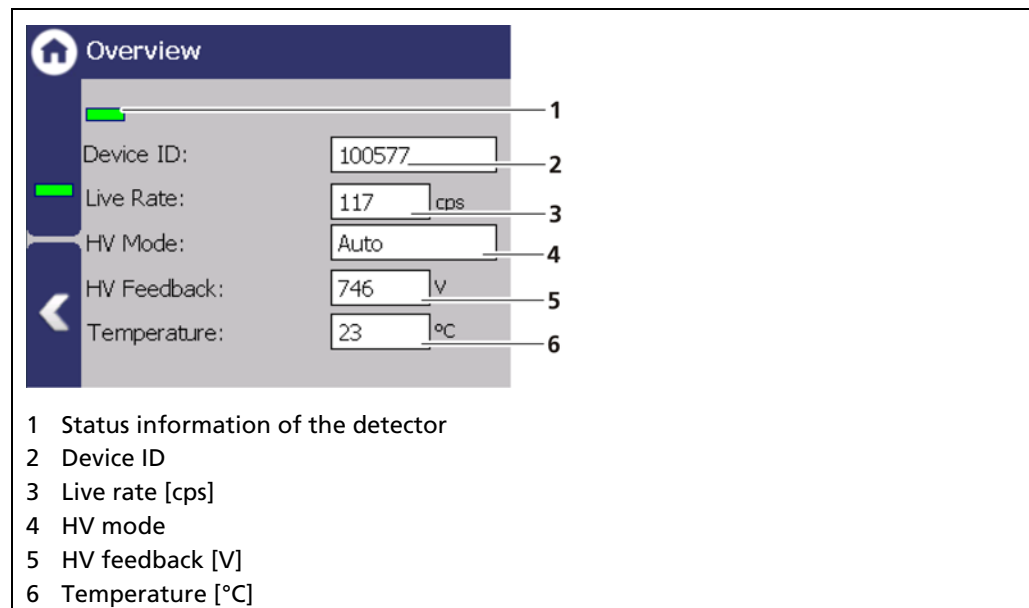

Fig. 47 Overview Detector Information
A green bar appears with error-free status of the detector (Fig. 47, item 1).
Device ID	Shows the ID (Fig. 47, item 2) of the detector.
Live Rate	The "Live Rate" (Fig. 47, item 3) displays the current, unfiltered count rate.
HV Mode	In the field "HV mode" (Fig. 47, item 4), the HV mode is displayed, which is chosen under Device Setup Setup Sensors NAME DETECTOR High Voltage HV Settings .
HV Feedback	The field "HV Feedback" (Fig. 47, item 5) displays the actual measured value in volts.
Temperature	The field "Temperature" (Fig. 47, item 6) indicates the current temperature of the detector in C°.